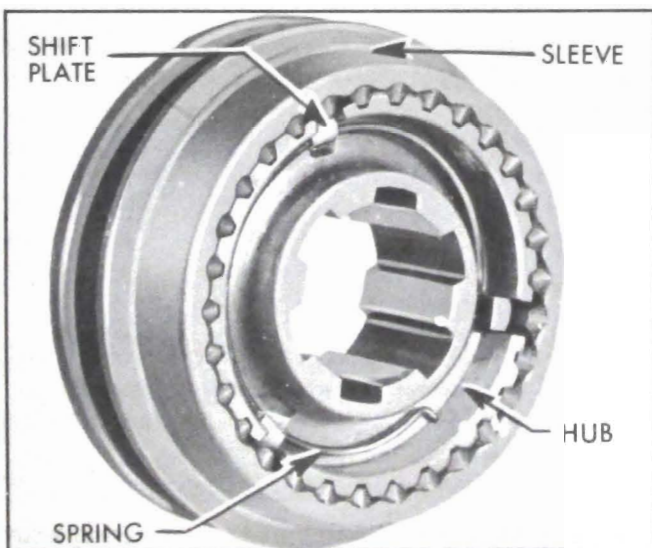

Figure 4-22—Synchronizer Assembly
2. While holding shift plates in position (in grooves) on hub, slide synchronizer sleeve over hub until detent is felt. The extended tapered portion of the sleeve faces the same direction (front) as the long extended portion at the center of the hub. See Figure 4-22.